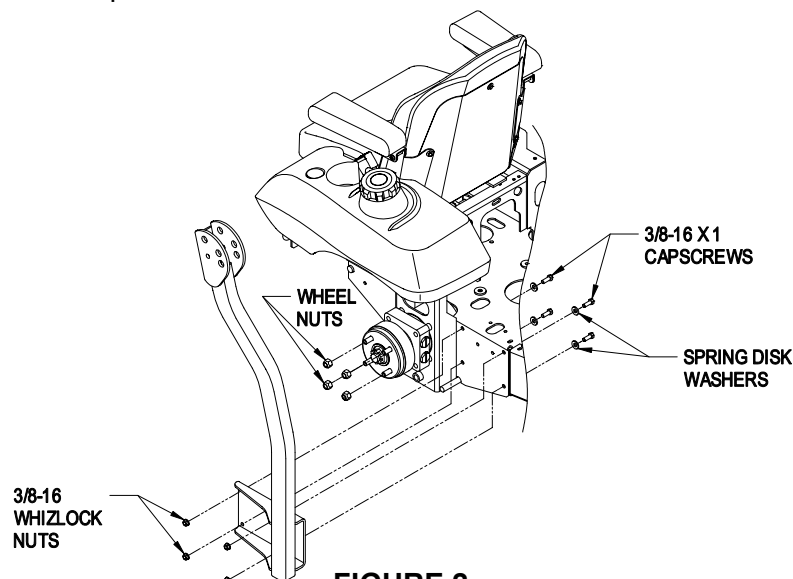

FIGURE 2
- Align lower roll bar tubes along wheel motor channels as shown in Figure 2.
- LOOSELY** install lower roll bar hardware (four 3/8-16 x 1 capscrews, four spring disk washers and four 3/8-16 whizlock nuts) from the bolt bag to the tubes on each side as shown in Figure 2.